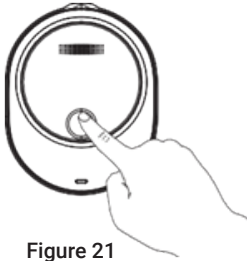

Figure 21
- a. Press the operation switch ON/OFF shortly, and the LED will flash once every time (see Figure 21).